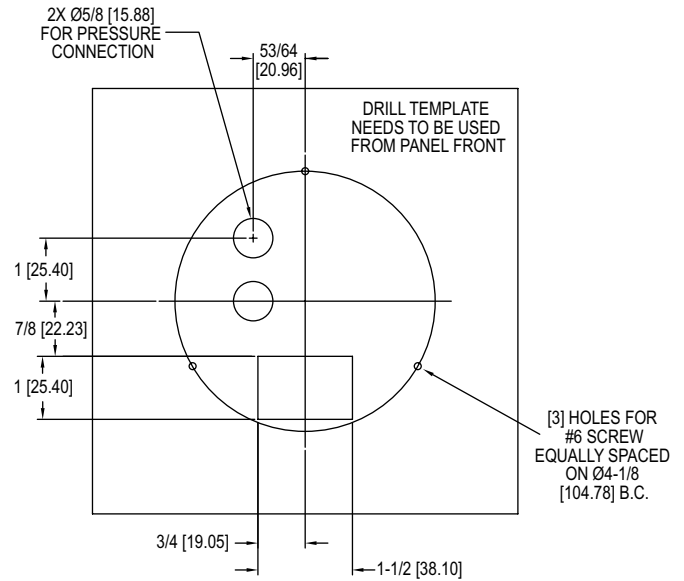
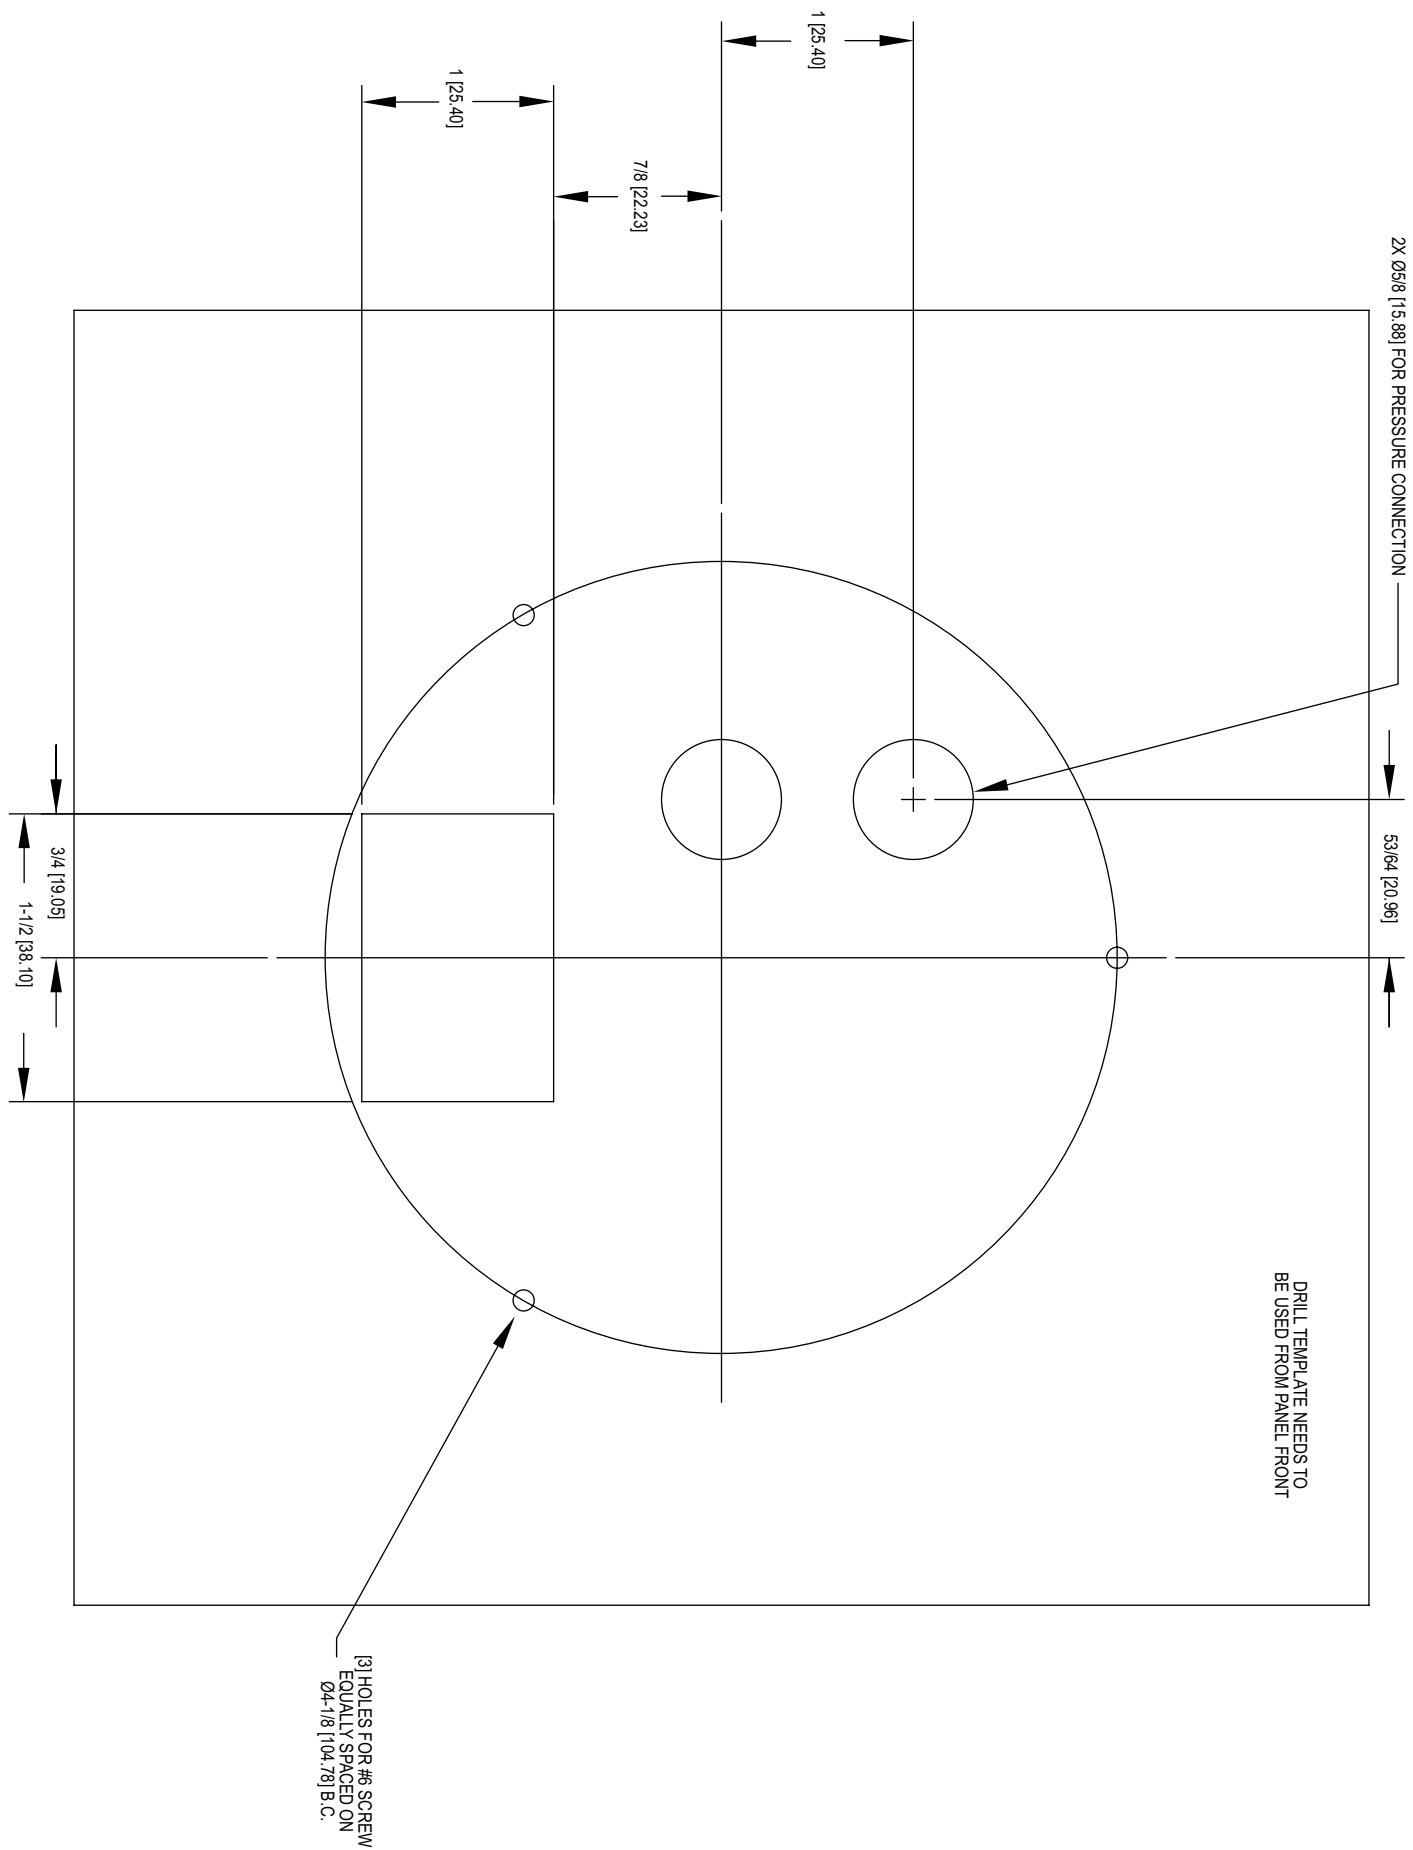

Figure 2: Surface mount
Figure 4: Surface mounting drill template
1. Use the drill template (Figure 4 on the next page) on the **front** of the desired mounting surface. Provide three 3/16" diameter holes in panel on a 4-1/8" diameter bolt circle. Cut the opening for the terminal block as shown in Figures 2 and 4.
2. If the rear pressure connections are to be used, also provide 1/2" diameter holes as shown in Figures 2 and 4.